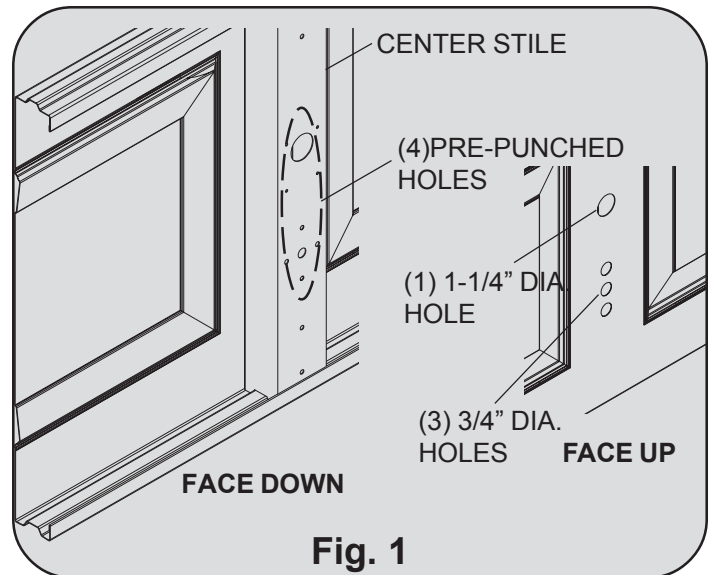

Fig. 1
8000/8100/8200/PR9000 & PR9050 Series doors (see Fig.1), place the lock section face down on (2) padded sawhorses for a single car door or (3) padded sawhorses for a double car door. Locate the (4) hole pattern in the center stile of the lock section. Use the (4) holes as a template to drill (4) 1/8" holes through the section. Flip the section over, face up. With the section face up, enlarge the (3) bottom holes to 3/4" diameter and the top hole to 1-1/4" diameter, **pay close attention not to drill completely through section into center stile.**